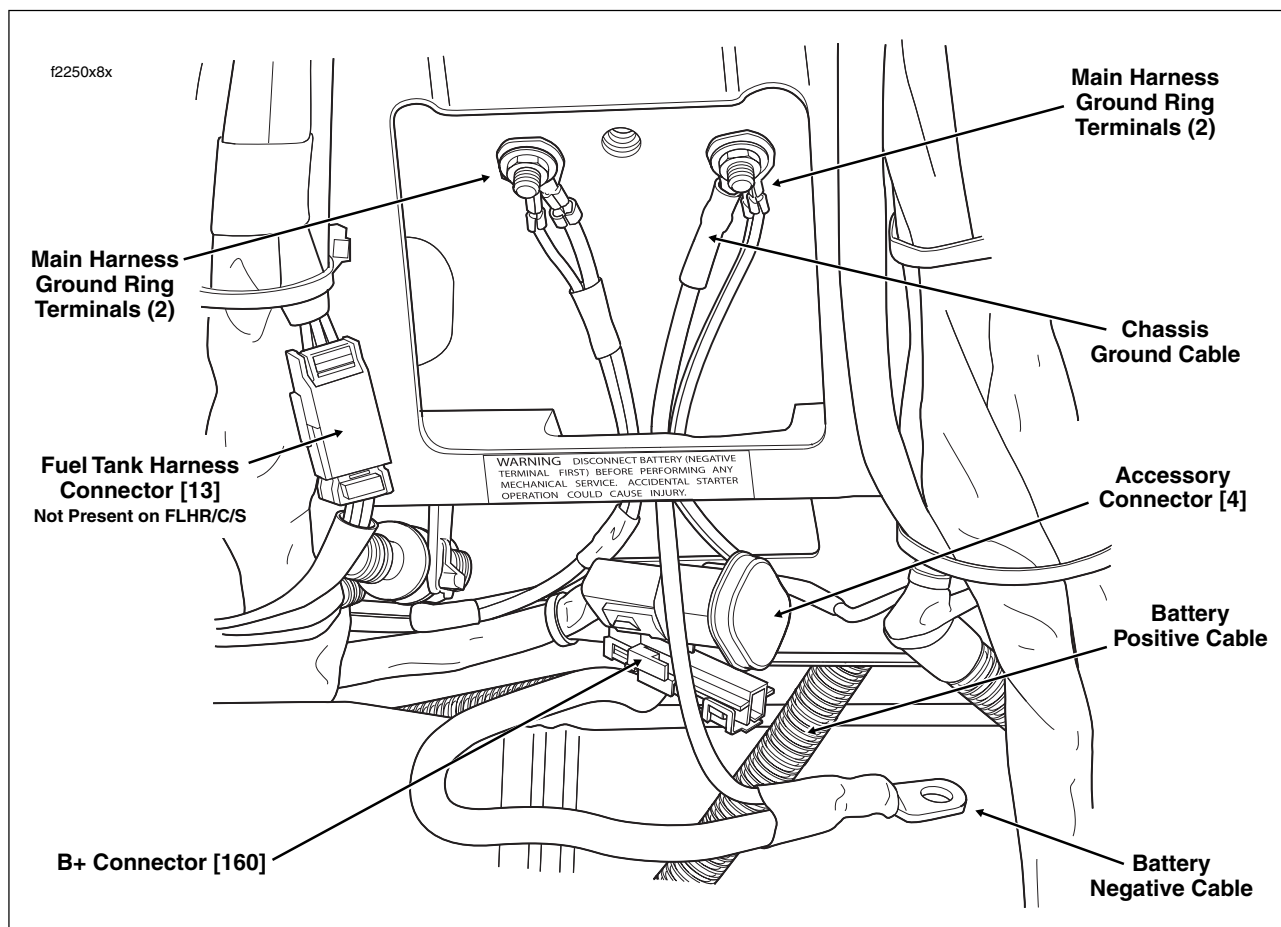

Figure 8-150. Electrical Connectors - Upper Frame Cross Member (Under Seat)
3. Remove flange nut (10 mm) from left side ground stud on upper frame crossmember. Remove two main harness ground ring terminals. Repeat step to remove two main harness ground ring terminals from right side ground stud. See Figure 8-150.
14. Cut anchored cable strap to release accessory connector [4] and B+ connector [160] from left side of frame crossmember (in front of battery box). See Figure 8-150.
3. Slide two main harness ground ring terminals onto left side ground stud on upper frame crossmember and install flange nut (10 mm). Install chassis ground ring terminal onto right side ground stud and then two main harness ground ring terminals and flange nut (10 mm). Tighten flange nuts to 50-90 **in-lbs** (5.7-10.2 Nm). See Figure 8-150.
11. Install **new anchored** cable strap in lower hole on left side of frame crossmember (in front of battery box). Tighten cable strap to capture conduit of both accessory connector [4] and B+ connector [160] approximately one inch from connector housings. See Figure 8-150.